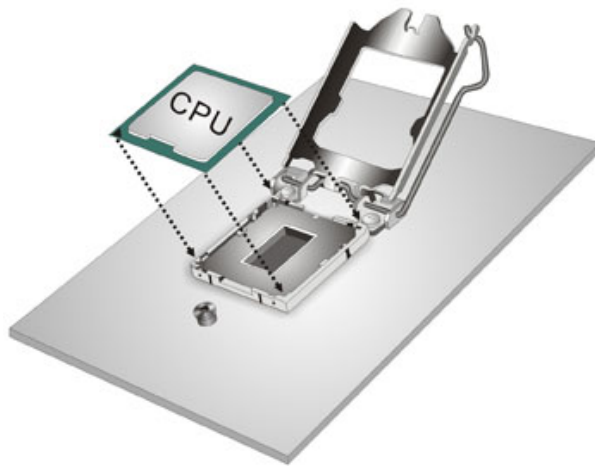

Figure 3-5: Insert the Socket LGA1155 CPU
Step 7: **Insert the CPU.** Gently insert the CPU into the socket. If the CPU pins are properly aligned, the CPU should slide into the CPU socket smoothly. See **Figure 3-5.**